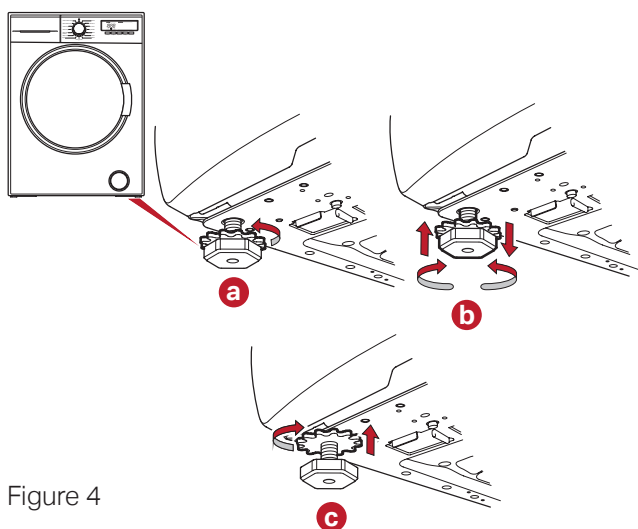

Figure 4
- 1 Turn the plastic locking nut anti-clockwise to loosen (see Figure 4(a)).
- 2 Turn the feet clockwise to increase the height of the Washer Dryer (see Figure 4(b)).
- 3 Turn the feet anti-clockwise to decrease the height of the Washer Dryer (see Figure 4(b)).
- 4 Once the Washer Dryer is level, turn the plastic locking nuts clockwise to tighten (see Figure 4(c)).